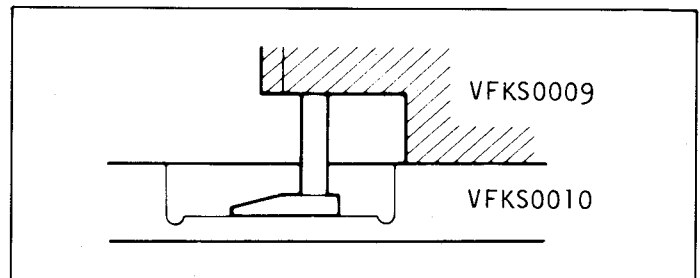
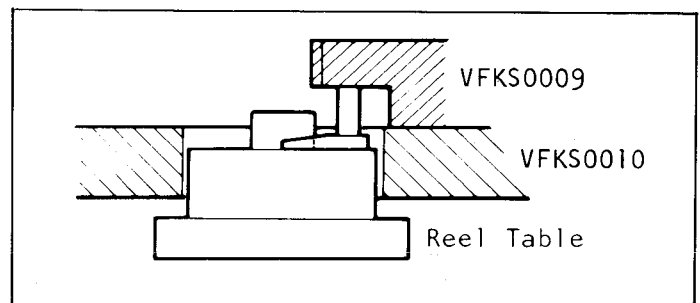

Fig. M32 Height Adjustment of Reel Tables - (1)
Fig. M33 Height Adjustment of Reel Tables - (2)
3. If the difference of reading of gauge between height at cut-out portion of VFKS0010 (See Fig. M32) and the height of reel tables (See Fig. M33) is more than 0.1mm (higher or lower), adjust the height of reel table to obtain the specified height.